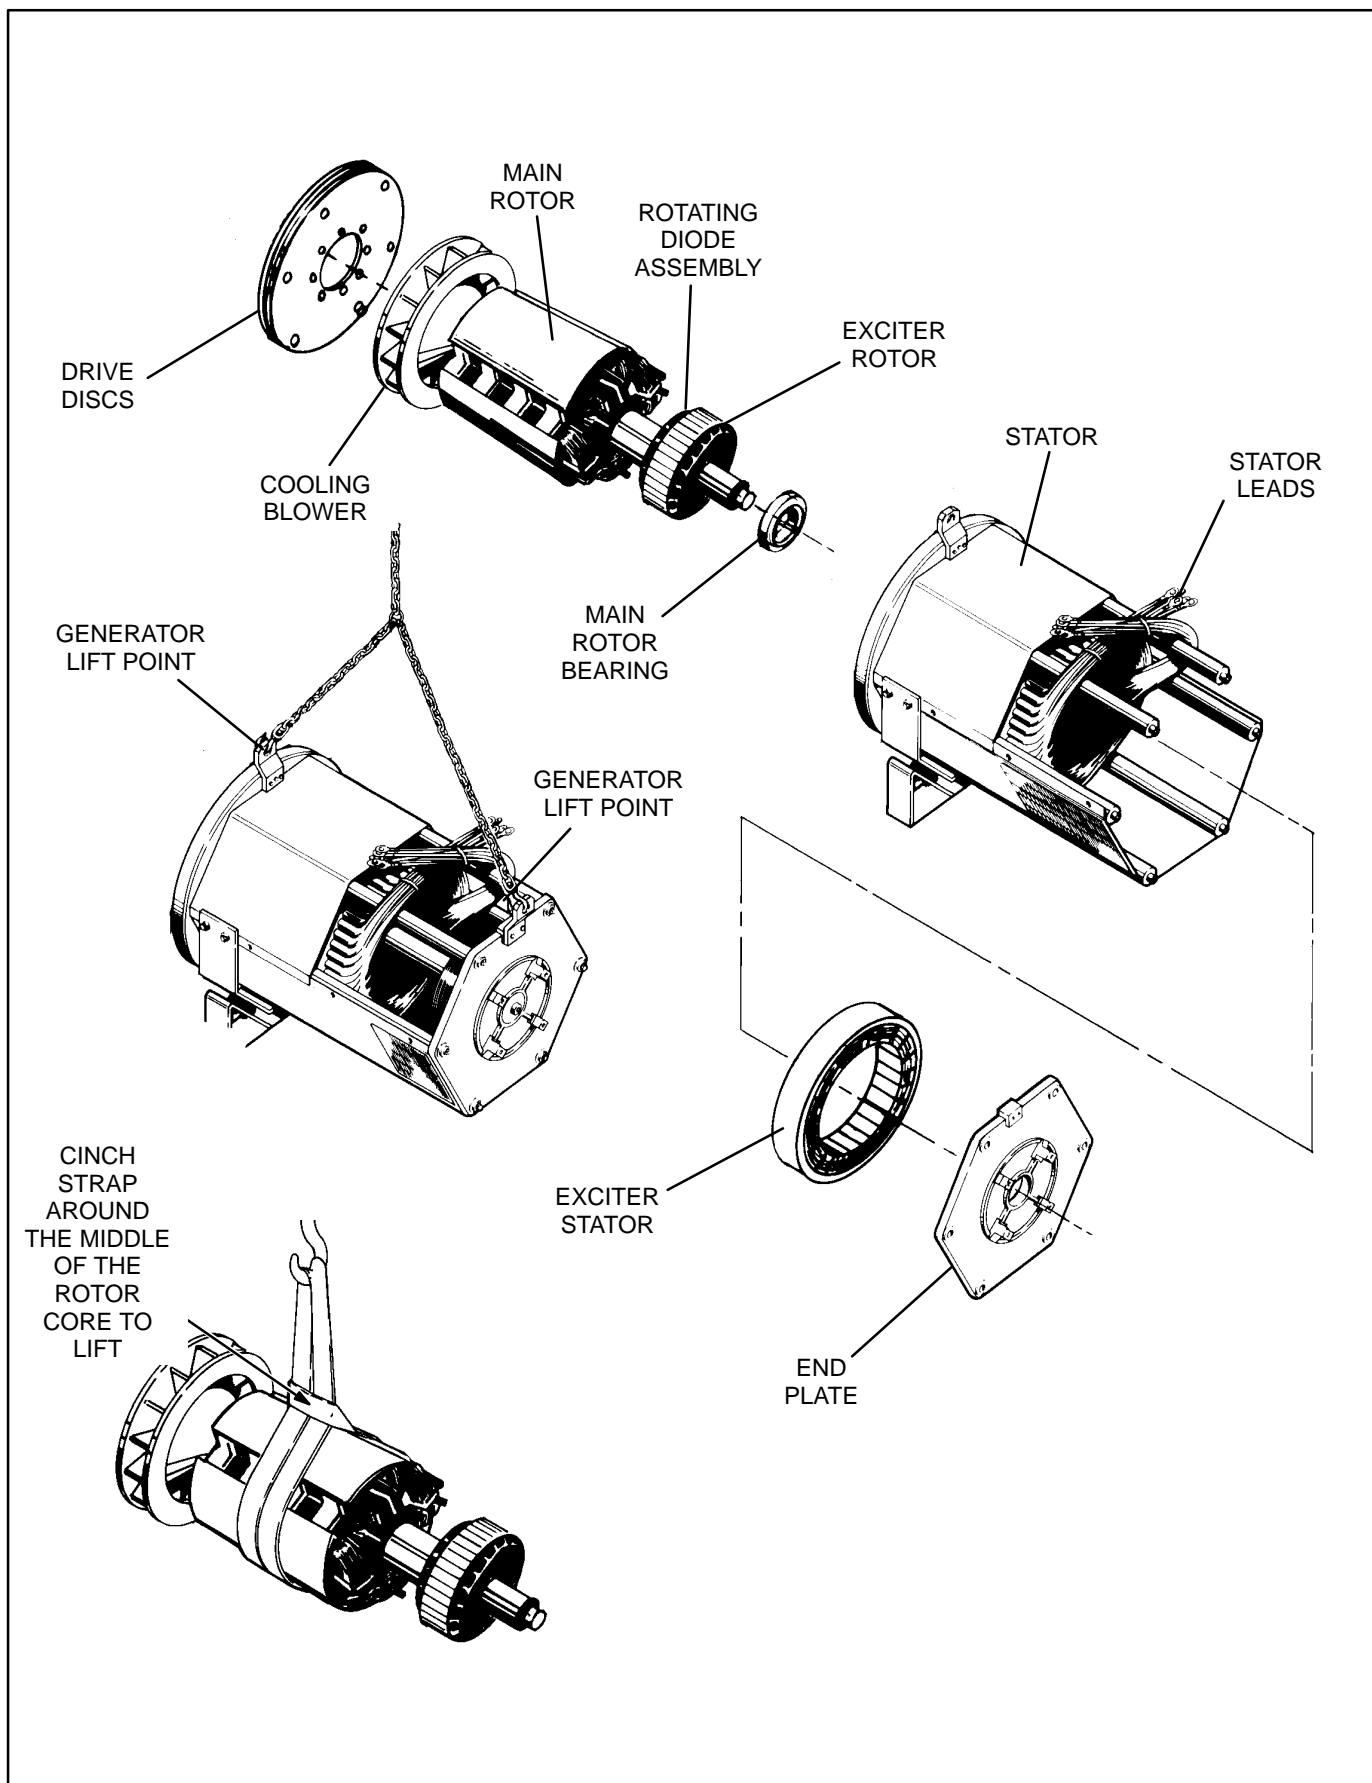

FIGURE 5-7. GENERATOR ASSEMBLY
2. Attach lifting eyes and a hoist of sufficient capacity (Figure 5-7).